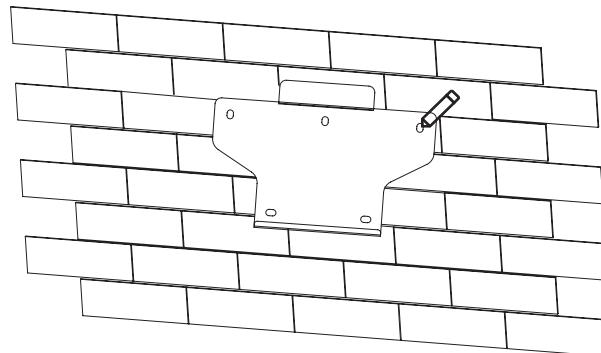

Figure 4-9 Marking hole position using installation bracket
- ① Use the wall bracket as the template to mark the position of 5 holes on the wall. See Figure 4-9 for details: